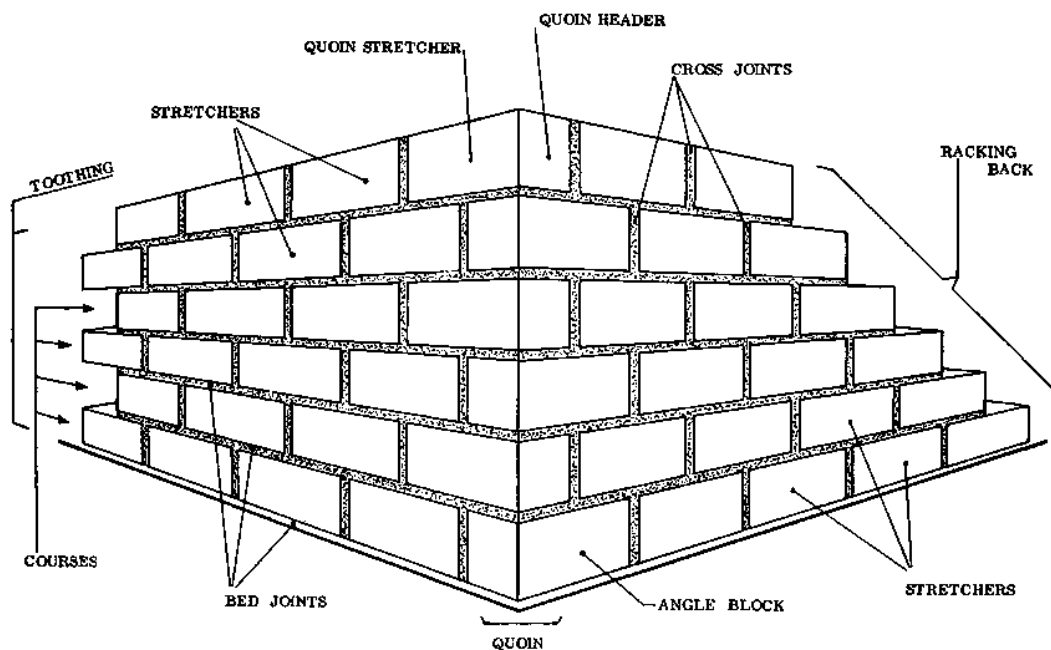

Fig. 1
1, next page). This is the way most blocks are laid in Rural Building, and we say that the block is laid edgewise. If a block is laid flatwise, so it is actually showing the top face, it is also called a stretcher (Fig. 1, next page).
- COURSE: This is the term applied to each layer or row of blocks, with the bed joint included (Fig. 1, next page).
- BED JOINT: This is the horizontal mortar joint between two courses (Fig. 1).
- CROSS JOINT: The vertical joints between the blocks (Fig. 1).
- QUOIN: The quoin is the outside corner of a wall or the external angle on the face side of the wall (Fig. 1).
- ANGLE BLOCK: This is the block which actually forms the corner in each course (Fig. 1).